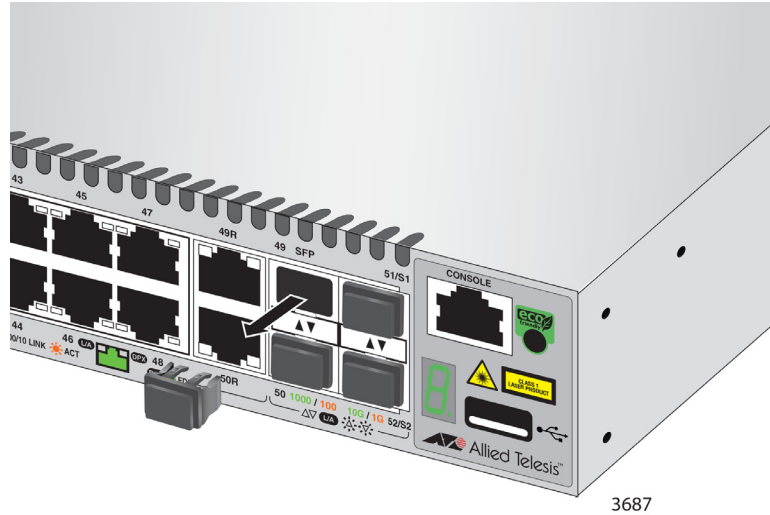

Figure 40. Removing the Dust Plug from an SFP Slot
1. Remove the dust plug from a transceiver slot on the switch. See Figure 40.